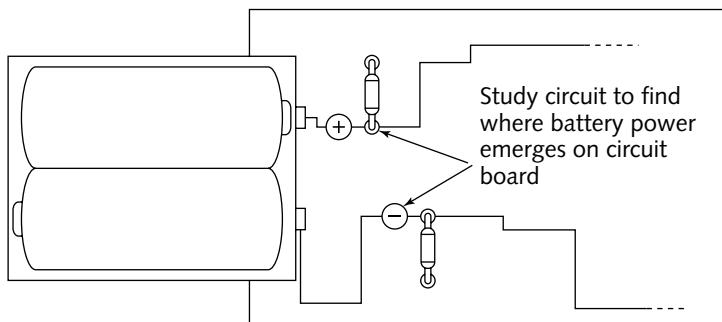

FIGURE 10-14: Extension wires will be soldered to components (or printed circuit traces) connected directly to the batteries (power supply).
- b. If the built-in does not have wires but instead connects directly to your circuit board, you'll need to solder two new wires to circuit points—one to the positive side and one to the negative side—of the existing battery compartment circuit traces (see Figure 10-14).